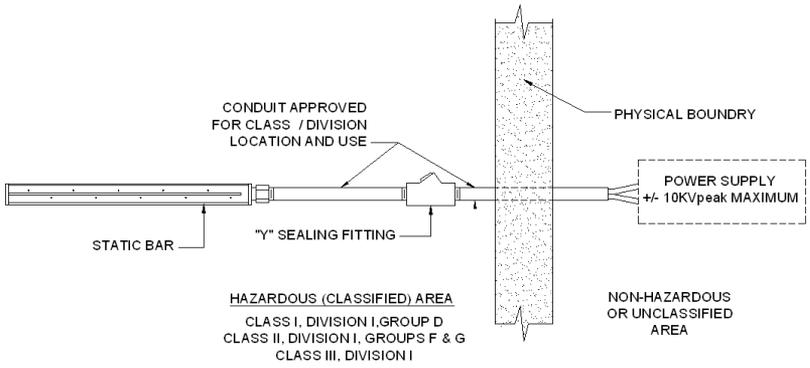

Figure 9. Conduit Requirements
The IQ POWER HL static bar requires the use of a “Y” conduit sealing fitting between the static bar and the physical boundary of the classified area. The high voltage wiring from the IQ POWER HL static bar must be properly prepared to ensure the sealing at the “Y” fitting(s). Refer to **Figure 9** for a typical location.
3. A "Y" sealing fitting is required between the static bar and the boundary, (physical separation between the Class 1 location and the non-hazardous or unclassified area). Refer to Section 4 for the proper installation of the "Y" sealing fitting. Refer to **Figure 9** for the typical location.